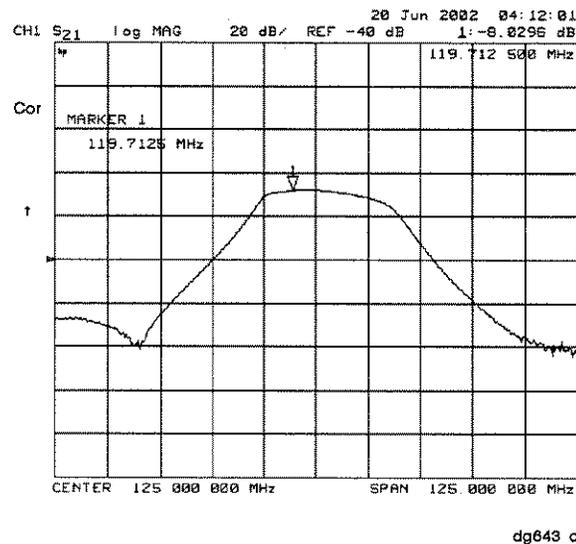

Figure 2-4. Example Measurement of Insertion Loss
3. Press **MARKER** and turn the front panel knob to place the marker at a frequency of interest. Read the device's insertion loss to 0.0001 dB resolution as shown in Figure 2-4.